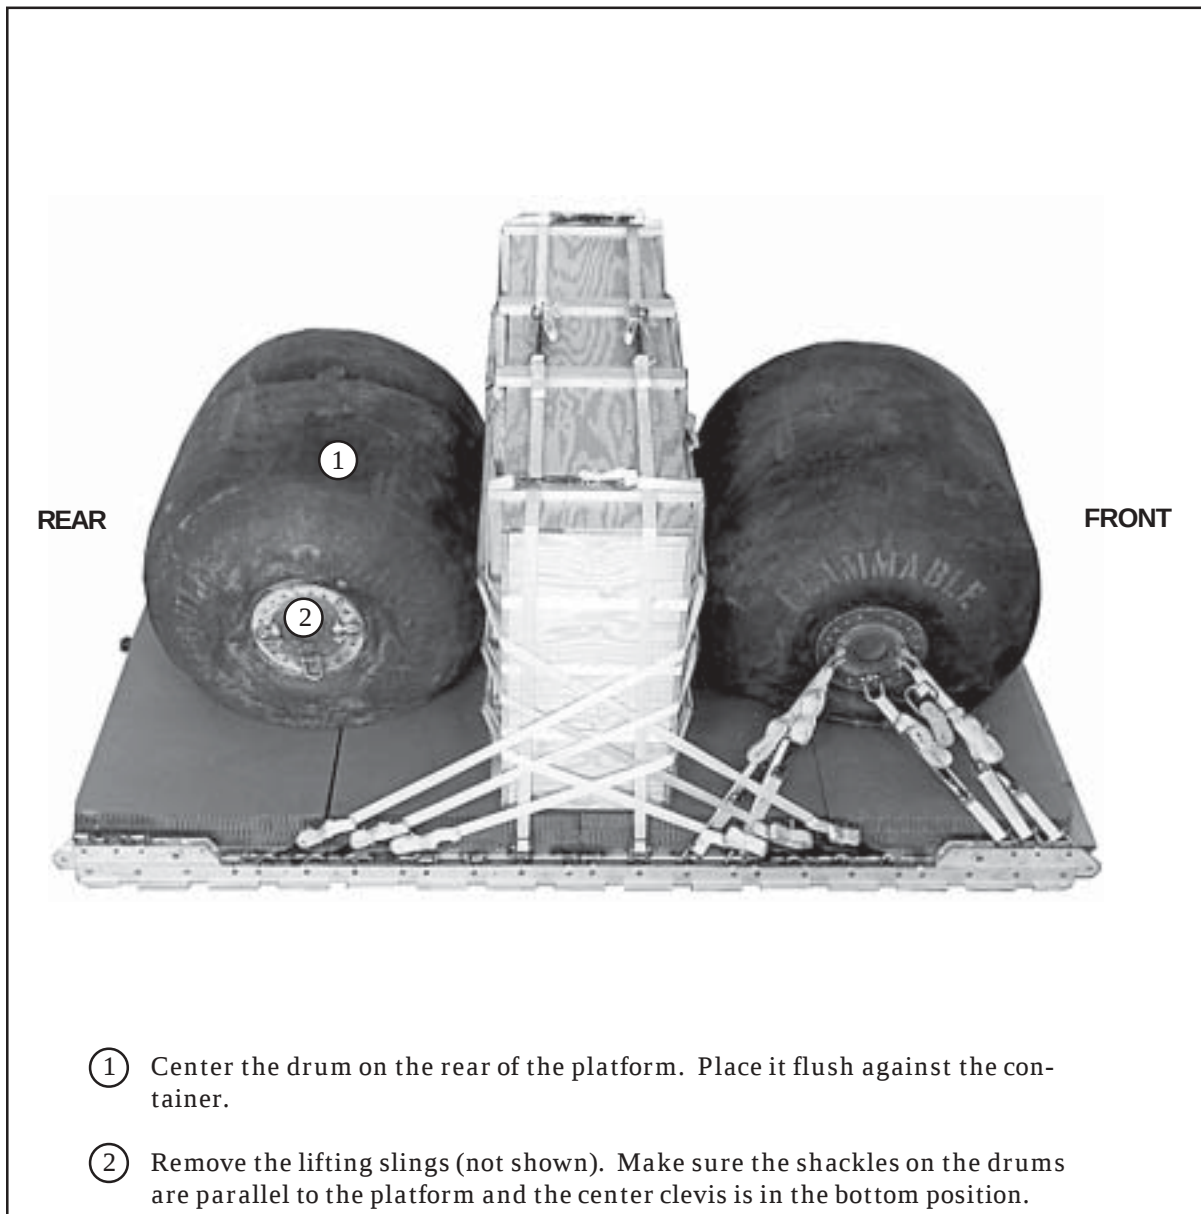

Figure 1-19. Rear Fuel Drum Placed on Platform
- b. REAR FUEL DRUM.** Place the rear fuel drum on the platform as shown in Figure 1-19. Lash the rear fuel drum to the rear of the platform as shown in Figure 1-20. Secure the ends of the lashings with a D-ring and a load binder according to FM 4-20.102/NAVSEA SS400-AB-MMO-010/TO 13C7-1-5.